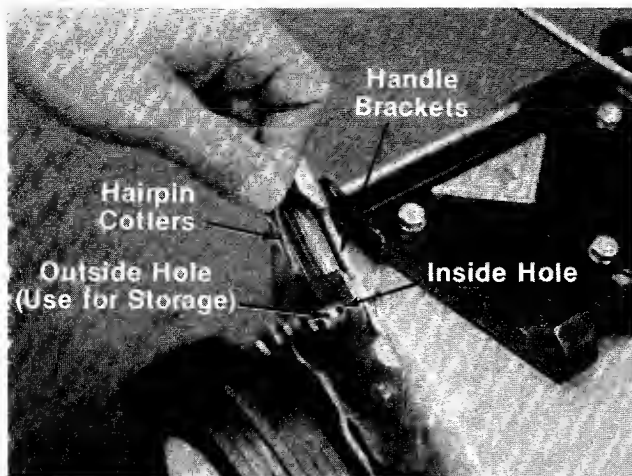

FIGURE 4.
There are two (2) holes in the handle mount brackets. Place the lower handle against the brackets and secure with hairpin cotter in the inner hole. Inner hole is for operation. Outer hole is for storage. See figure 4.